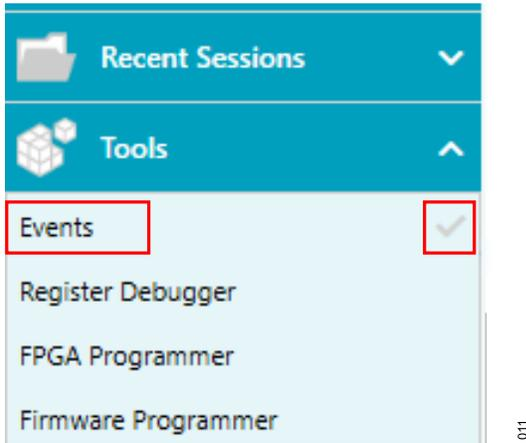

Figure 13. ACE Events Tool
- ▶ Enable and always use the **Events** tab to get indications of what the **ACE Software** is currently doing, receive error messages, and so on (see Figure 13).